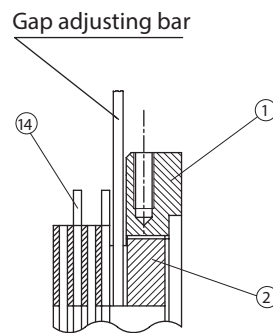

Figure 8-20
- (3) Insert the gap adjusting bar (customer to prepare an angle plate. See Figure 8-21) from between the outer disc [14] and the center ring [1] into a hole for a gap adjusting screw [2]. Rotating to the left as seen from the field [4] side, will narrow the gap. (See Figure 8-20)
- (4) Six attachment bolts [3] and 6 lock bolts [11] alternately pass through the space between the outer disc [14] and the center ring [1]. Rotating the gap adjusting bar will contact these bolts. There are 8 equally distributed holes for gap adjusting screws [2]. Adjust the gap G to the required value by repeating (3) each time the gap adjusting bar contacts a bolt.
- (5) Select the point where hole and screw hole are closest to the required gap and attach the stopper [16] there.
- (6) After returning the manual brake release to its original state, turn power on and off to check brake action.
- (7) Attach the fan [7] and cover [8]. At this time coat the fan set screw [10] with Three Bond TB2365.